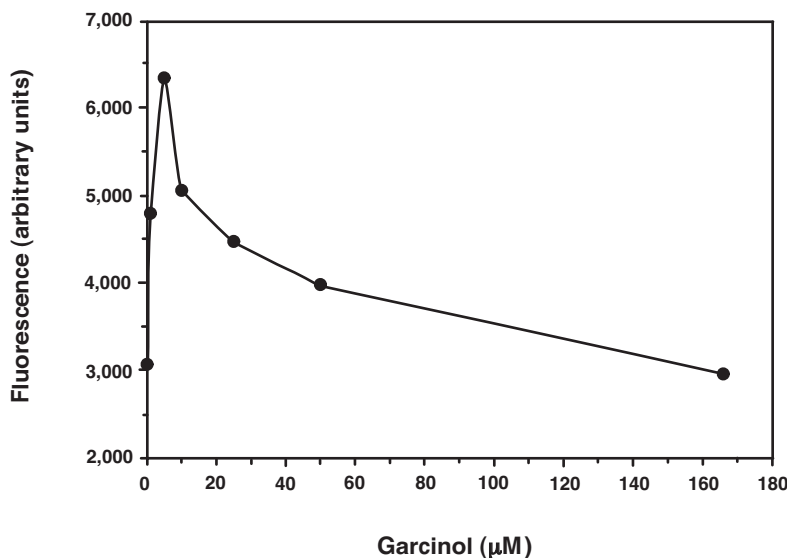

Figure 3. Inhibition of human recombinant pCAF histone acetyltransferase by garcinol
5. An example of a known pCAF HAT inhibitor, garcinol, interfering with the assay is shown in Figure 3, below.⁹